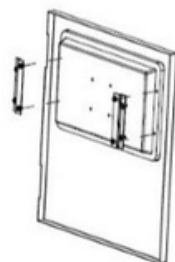
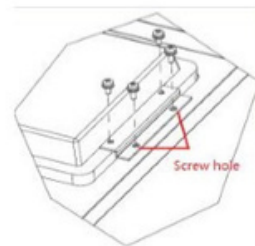

Figure 3
Figure 4
- Fix Integrated Monitor Touch Pad on the cabinet door with screws as Figure 3 and Figure 4.